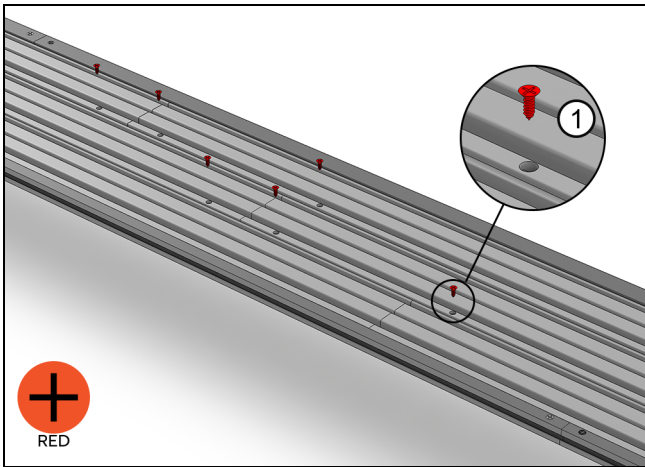

Figure 25
10. Once all screws are secured, flip the sill right side up. See Figure 25.